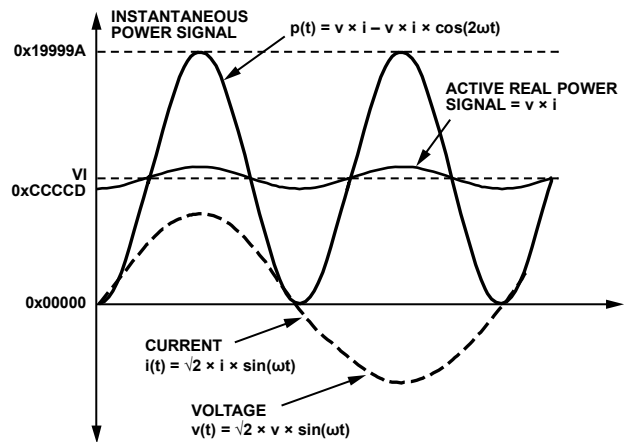

Figure 64. Active Power Calculation
Note that the active power is equal to the dc component of the instantaneous power signal  $p(t)$  in Equation 11, that is,  $VI$ . This is the relationship used to calculate active power in the ADE7116/ADE7156/ADE7166/ADE7169/ADE7566/ADE7569. The instantaneous power signal  $p(t)$  is generated by multiplying the current and voltage signals. The dc component of the instantaneous power signal is then extracted by LPF2 (low-pass filter) to obtain the active power information. This process is illustrated in Figure 64.
The ADE7116/ADE7156/ADE7166/ADE7169/ADE7566/ADE7569 also incorporate an active power offset register (WATTOS[15:0], Address 0x20). It is a signed, twos complement, 16-bit register that can be used to remove offsets in the active power calculation (see Figure 64). An offset can exist in the power calculation due to crosstalk between channels on the PCB or in the IC itself. The offset calibration allows the contents of the active power register to be maintained at 0 when no power is being consumed.
As mentioned in the Active Energy Calculation section, the discrete time sample period (T) for the accumulation register is 1.22  $\mu$ s (5/MCLK). With full-scale sinusoidal signals on the analog inputs and the WGAIN register (Address 0x1D) set to 0x000, the average word value from each LPF2 is 0xCCCCD (see Figure 64). The maximum positive value that can be stored in the internal 49-bit register is  $2^{48}$  (or 0xFFFF,FFFF,FFFF) before it overflows. The integration time under these conditions when WDIV = 0 is calculated in the following equation: